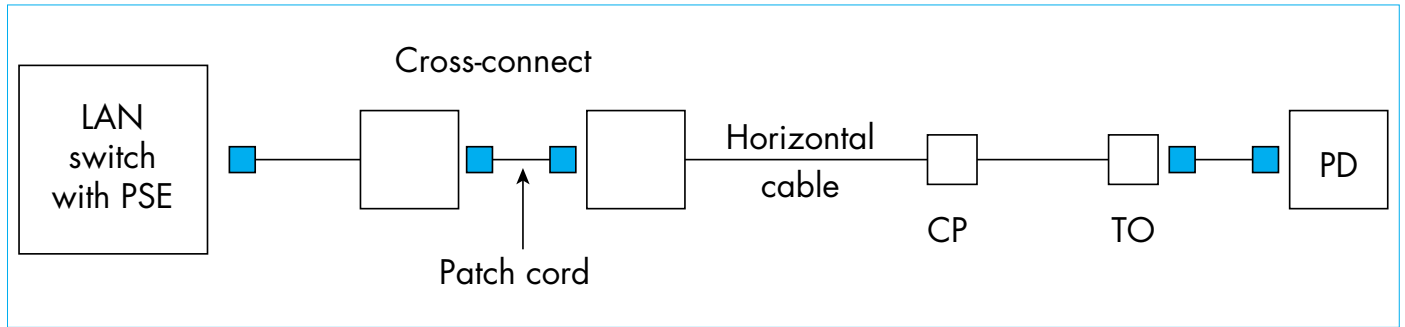

Figure 2: Power supplied from LAN equipment with end-span PSE
The PoE system consists of the power sourcing equipment (PSE), which supplies the power, and the powered device (PD), which receives the power. PSEs are typically designed as end-span or mid-span power supplies. The end-span PSE is typically built into an Ethernet switch port, with an estimated 100 million PoE-enabled ports shipping annually1. As the name suggests, the end-span PSE, illustrated in Figure 2, resides at the LAN endpoint opposite the PD.